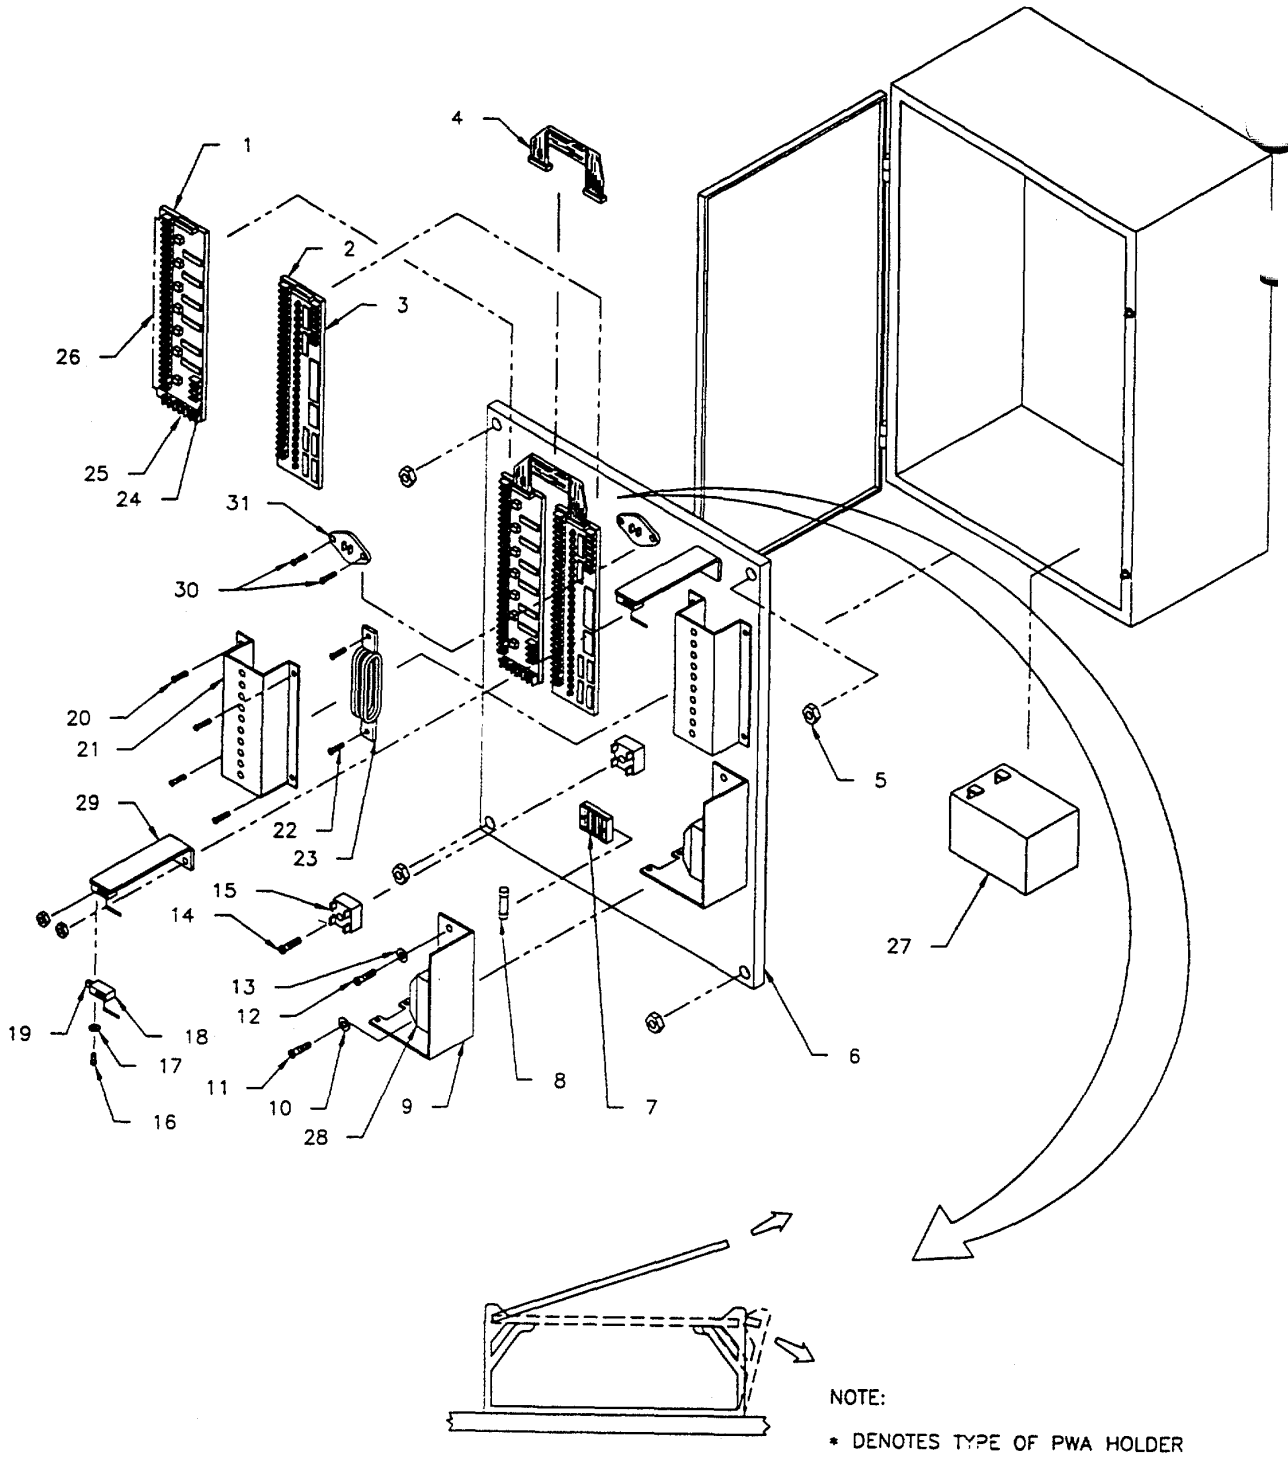

Figure 3-43. Removal and Replacement of SubRADC (Leda), With Power Supply, (Exterior) Assemblies
- (1) Place non-conductive grease (Appendix D, Item 9) on back of Rectifier Assembly (15).
- (2) Align Rectifier Assembly (15) up with hole in panel (6) and secure with screw (14).
- (3) Connect the slip-on terminal connectors to Rectifier Assembly terminals (15).
- (4) Reconnect input power.
- (5) Replace enclosure cover and secure.
**3-79. REPLACE 12 VDC BATTERY. (See Figure 3-43).****This task consists of:****a. Remove****b. Install**
- (1) Place Battery (27) in bottom of enclosure.
- (2) Connect the two slip-on terminals to Battery (27) positive and negative terminals.
- (3) Reconnect input power.
- (4) Replace enclosure cover and secure.
**3-80. REPLACE TAMPER SWITCH. (See Figure 3-43).****This task consists of:****a. Remove****b. Install**
- (1) Align Tamper Switch up with enclosure mount (29) and secure with two screws (16) and flat washers (17).
- (2) Connect the tagged wires and connectors (19) to Tamper Switch (18).
**3-81. REPLACE IN-LINE FUSE. (See Figure 3-43).****This task consists of:****a. Remove****b. Install**
- (1) Align fuse (8) on input power terminal fuse holder and gently press down on fuse, until fuse locks into place.
- (2) Close the In-line fuse holder.
**3-82. REPLACE HEATER AND THERMOSTAT. (See Figure 3-43 and 3-6).****This task consists of:****a. Remove****b. Install****INITIAL SETUP****Equipment Condition:**